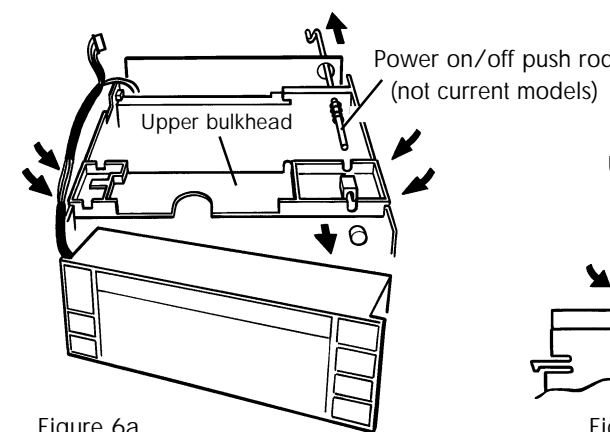

Figure 6a Bulkhead and power on/off activator
7. As shown in figures 6a, 6b and 6c, release the display loom from the left hand side of the upper bulkhead. If a power on/off push rod is fitted, remove the cap and pull the rod back, clear of the bulkhead. By compressing the securing latches at each end, lift the upper bulkhead from the recorder chassis. Discard the bulkhead